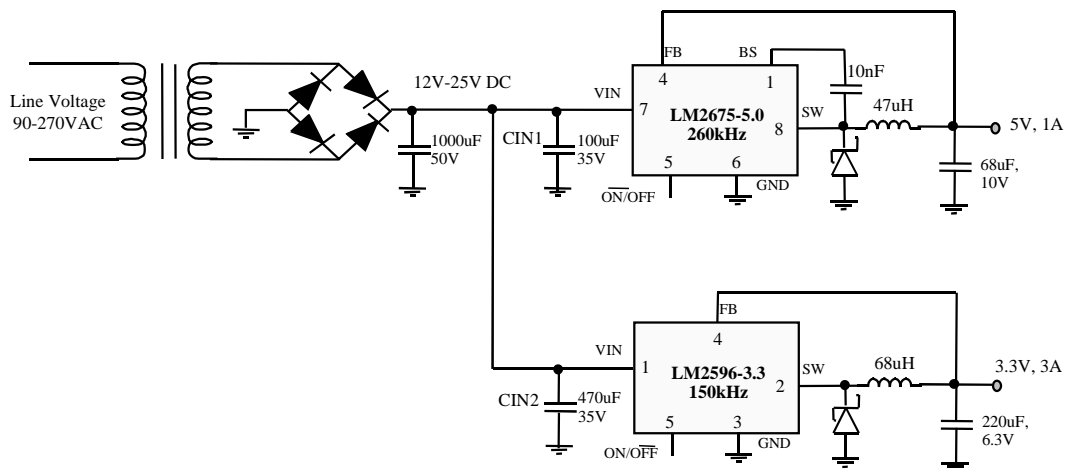
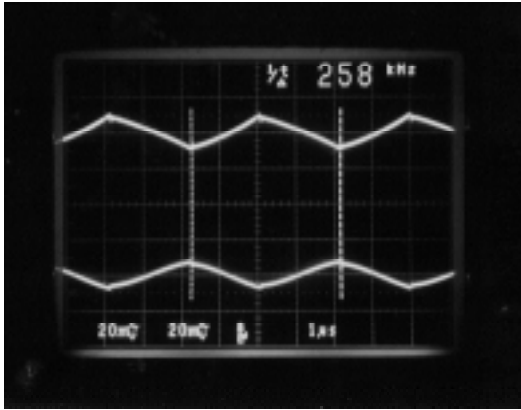

Figure 2: A distributed power system solution
Figure 3- Top: LM2675 Output Ripple(260kHz, 1A) Bottom:LM2596 Output Ripple (150kHz, No-load) A 260 kHz ripple is observed on the LM2596 output
*Figure 2* shows a distributed power system that generates regulated 5V and 3.3V outputs. The unregulated DC voltage, generated from the AC line, varies between 12V and 25V and is converted to tightly regulated DC voltages using two Simple Switcher™ buck regulators. A flyback converter could have been used to perform this conversion, but it was not used because of the need for better output regulation. The two buck regulators are designed using the associated Simple Switcher design software, and their design specifications are as shown in *Table 1*.
As seen in *Figure 2*, the converters are using the same DC input source. With this simple connection, both output voltages are regulated to a tolerance of better than 5%. However, the noise performance will be poor and the converters will interfere or cross-talk with each other. In the above example, this interference can be observed in at least four different modes:
- a) Figure 3 shows the output ripple voltage of the LM2675 and LM2596 buck regulators. Because the LM2596 is a 150 kHz buck regulator, a 150 kHz ripple is expected at its output. However, as seen in *Figure 2*, a 260 kHz ripple is also observed at the LM2596 output.